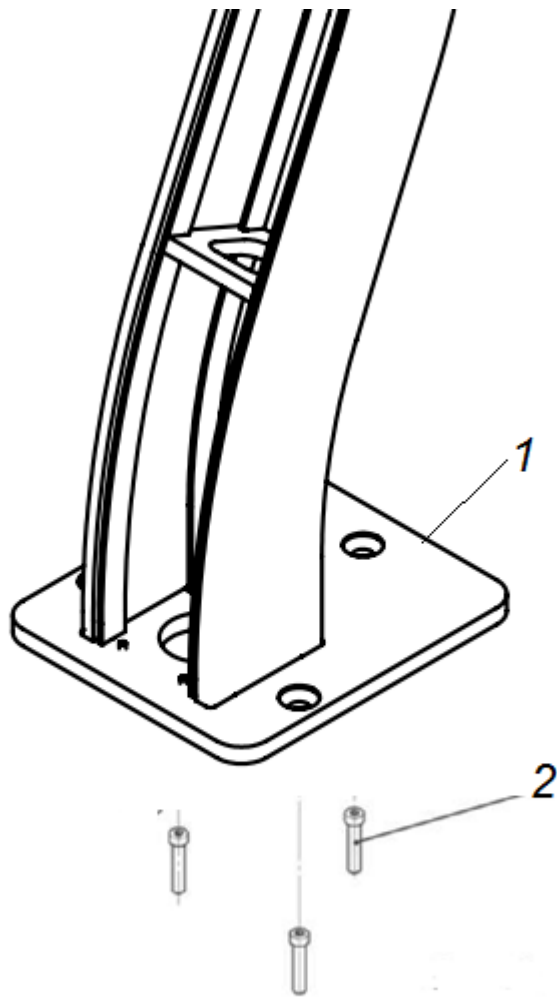

Fig.7. Installation diagram of the turnstile
4.2.8. Match the holes in the turnstile support (1, Fig.7) with the anchors in the floor. Check verticality of the installation in 2 planes, if necessary use steel gaskets of the required thickness for right installation of the turnstile. Fix the rack of the turnstile with three screws M8 (2, Fig 7), having screwed them to the appropriate anchors using internal hex wrench S5. Fix the base cover with double-sided adhesive tape.